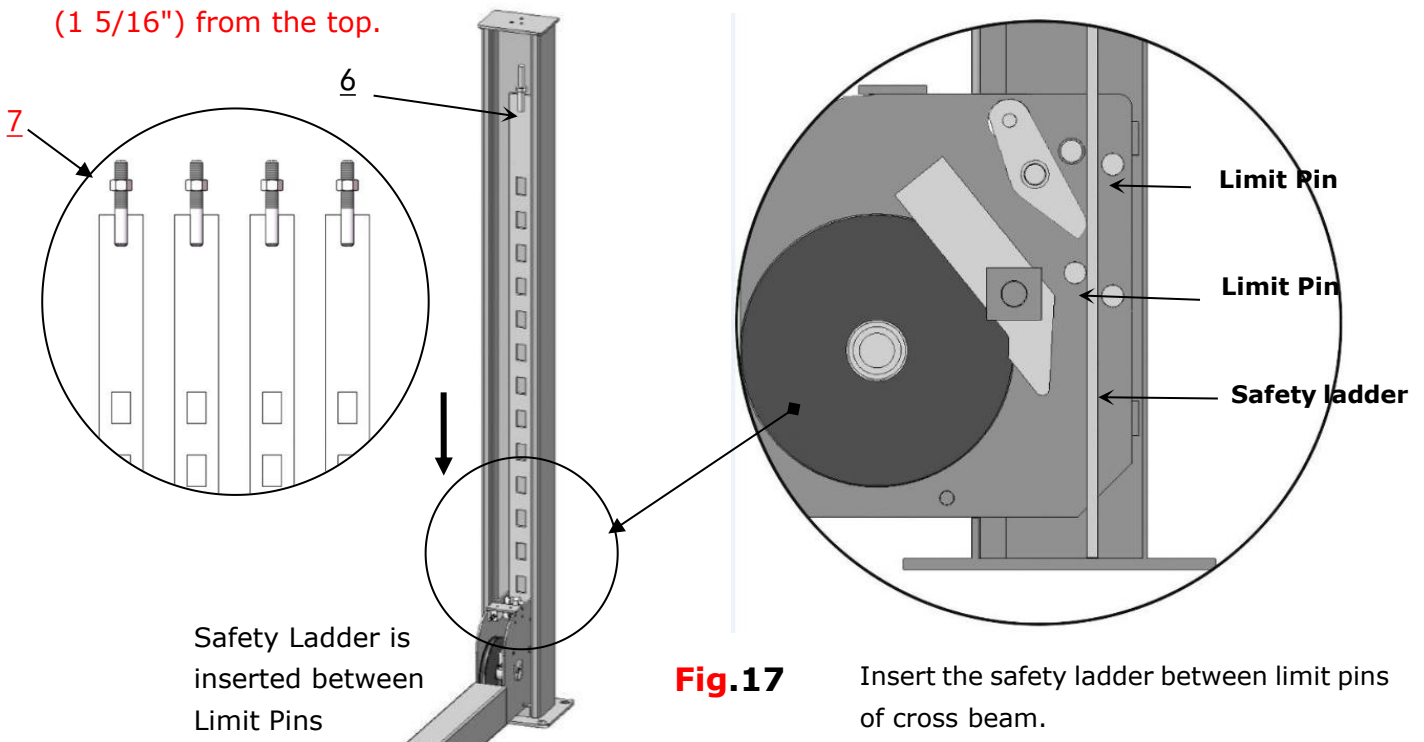

Fig.17
1. **Adjust the nuts of the four safety ladders to the same position**, and then install the safety ladders(See Fig. 17).